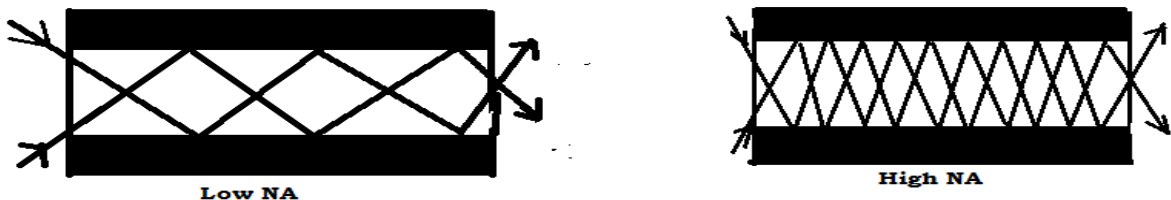

Figure 11
Equation (4) indicates that numerical aperture (NA) depends on the refractive indices of core and cladding and does not depend on dimensions of optical fiber. Large NA implies that the fiber will collect large amount of light from the source. That means large amount of information can be transmitted through it. The value of NA ranges from 0.13 to 0.50. Fibers with different NA are shown in figure 11.